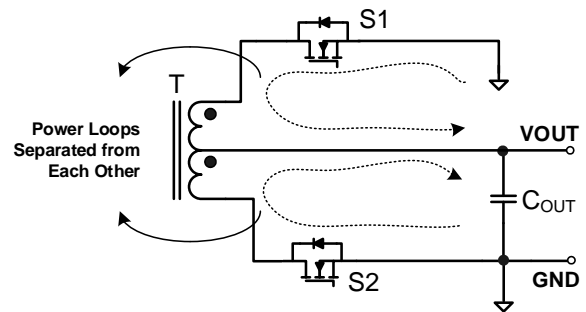

Figure 15: System Power Loop
Figure 15 shows how t_{ON} affects system efficiency.
1. Keep the two channels' power loops separated from each other (see Figure 15) to minimize the interaction between the two channels' power loops, which may affect the voltage sensing of the IC.